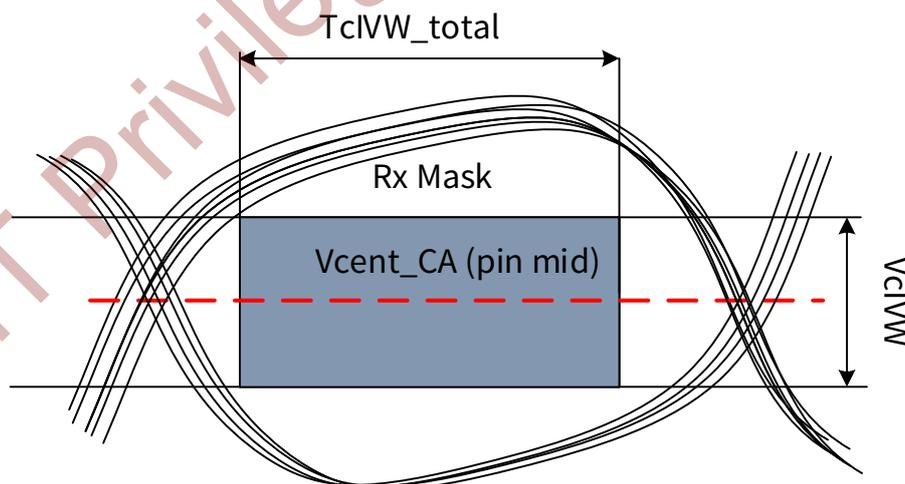

Figure 8-25 CA Receiver(Rx) Mask
The command and address(CA) including CS input receiver compliance mask for voltage and timing is shown in Figure 8-25. All CA, CS signals apply the same compliance mask and operate in single data rate mode.